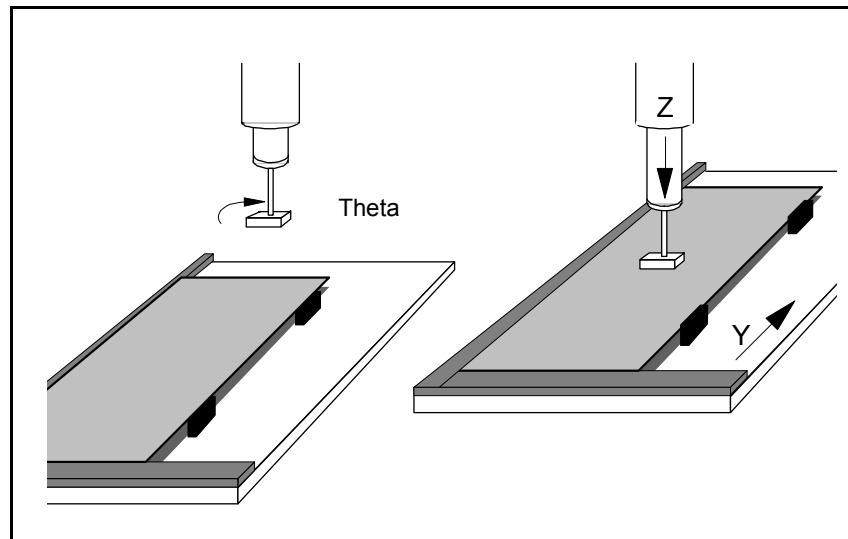

Figure 3-4. Rotating and mounting
- The component is rotated by the **Theta movement** to the angle at which it is to be mounted (see Figure 3-4).